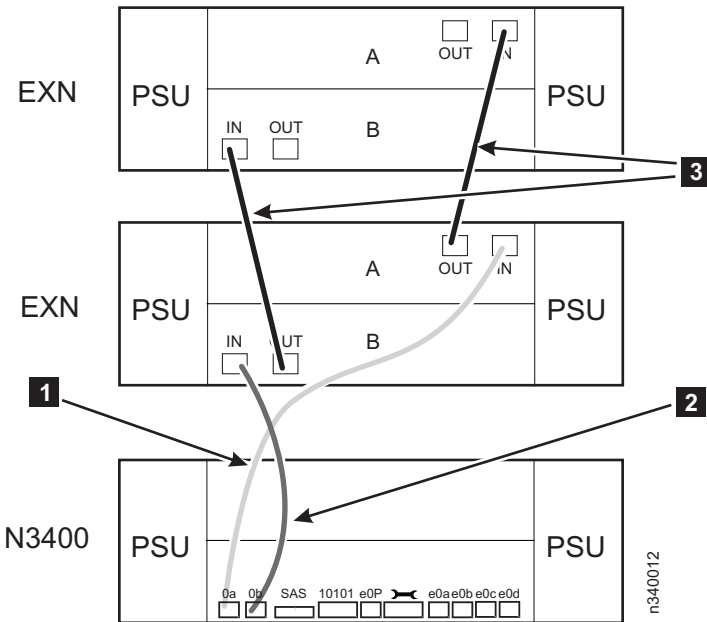

Figure 9. Cabling a single-node N3400
- Figure 9 shows storage system connections to EXN2000/EXN4000 expansion units. On EXN1000 expansion units, the positions of the In and Out ports are reversed from those of the EXN2000/EXN4000.
- Figure 9 shows only the first two storage expansion units in a loop. The number of storage expansion units per loop might be different for your configuration.
1. Cable the N3400 port 0a to the first expansion unit module A ESH2/ESH4 or AT-FCX In port. See **1** in Figure 9.
2. Cable the N3400 port 0b to the first expansion unit module B ESH2/ESH4 or AT-FCX In port. See **2** in Figure 9.
3. For any additional expansion units in a loop, connect the module A Out port to the next expansion unit's module A In port. Repeat for module B. See **3** in Figure 9.